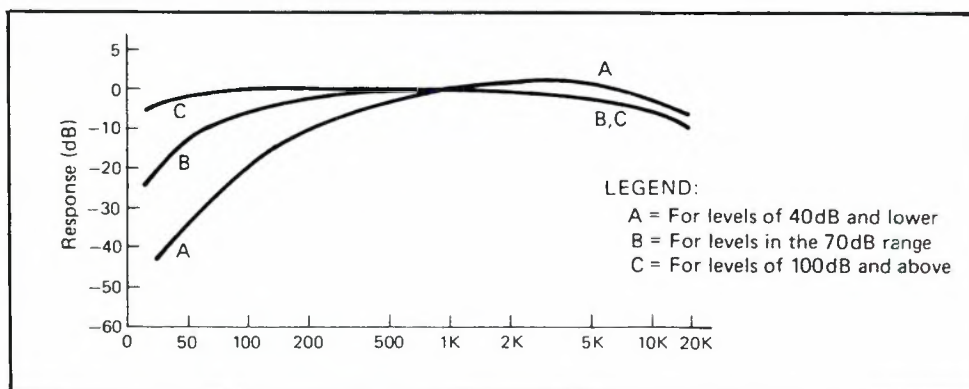

Figure 2. Weighting curves for sound level measurements of (A) 40 dB and lower, (B) in the 70 dB range, and (C) 100 dB and higher.
sound field. For example, a noise rating of 17 dB(A) indicates that the microphone has an electrical noise floor equal in level to that of a perfect (noiseless) microphone placed in a sound noise field of 17 dB as measured on the A-scale of a precision sound level meter. FIGURE 2 shows the A-weighting curve used for these measurements.